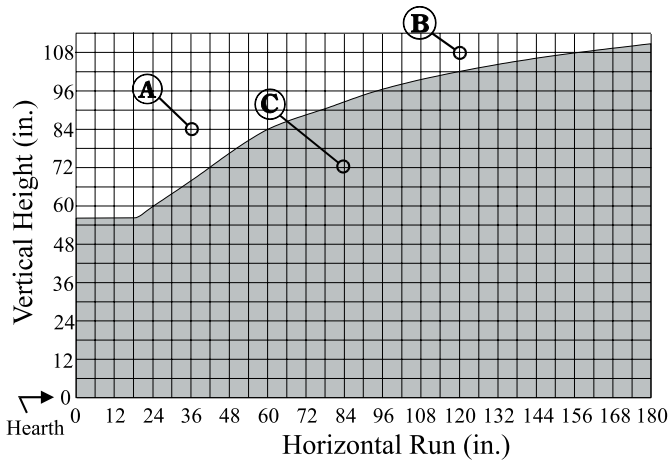

Figure 22c. Multi-Elbow Venting Graph.
- **IMPORTANT:** For both Rear-Elbow installations your vent run must fall within the limits set by the Graph, Figure 22c
Measure the vertical height from the fireplace hearth to the centre of the termination and the horizontal run from the fireplace flue collar to the wall flange of the termination. Plot on the Venting Graph (Fig. 22c) with an 'X'.
IMPORTANT: Venting runs *must* fall within the limits set by the venting graph (see Figure 22c).
For L52DF distance 'H' must be a minimum of 50". The vent run must comply with figure 22c.